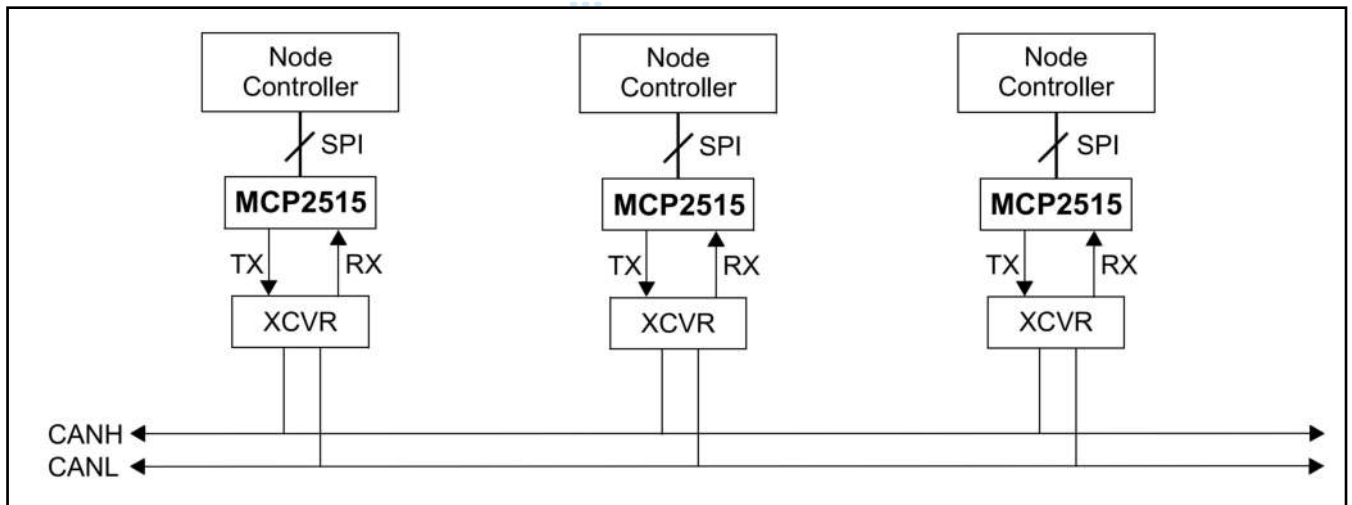

FIGURE 2: EXAMPLE SYSTEM IMPLEMENTATION
3. The SPI protocol block. An example system implementation using the device is shown in Figure 2.